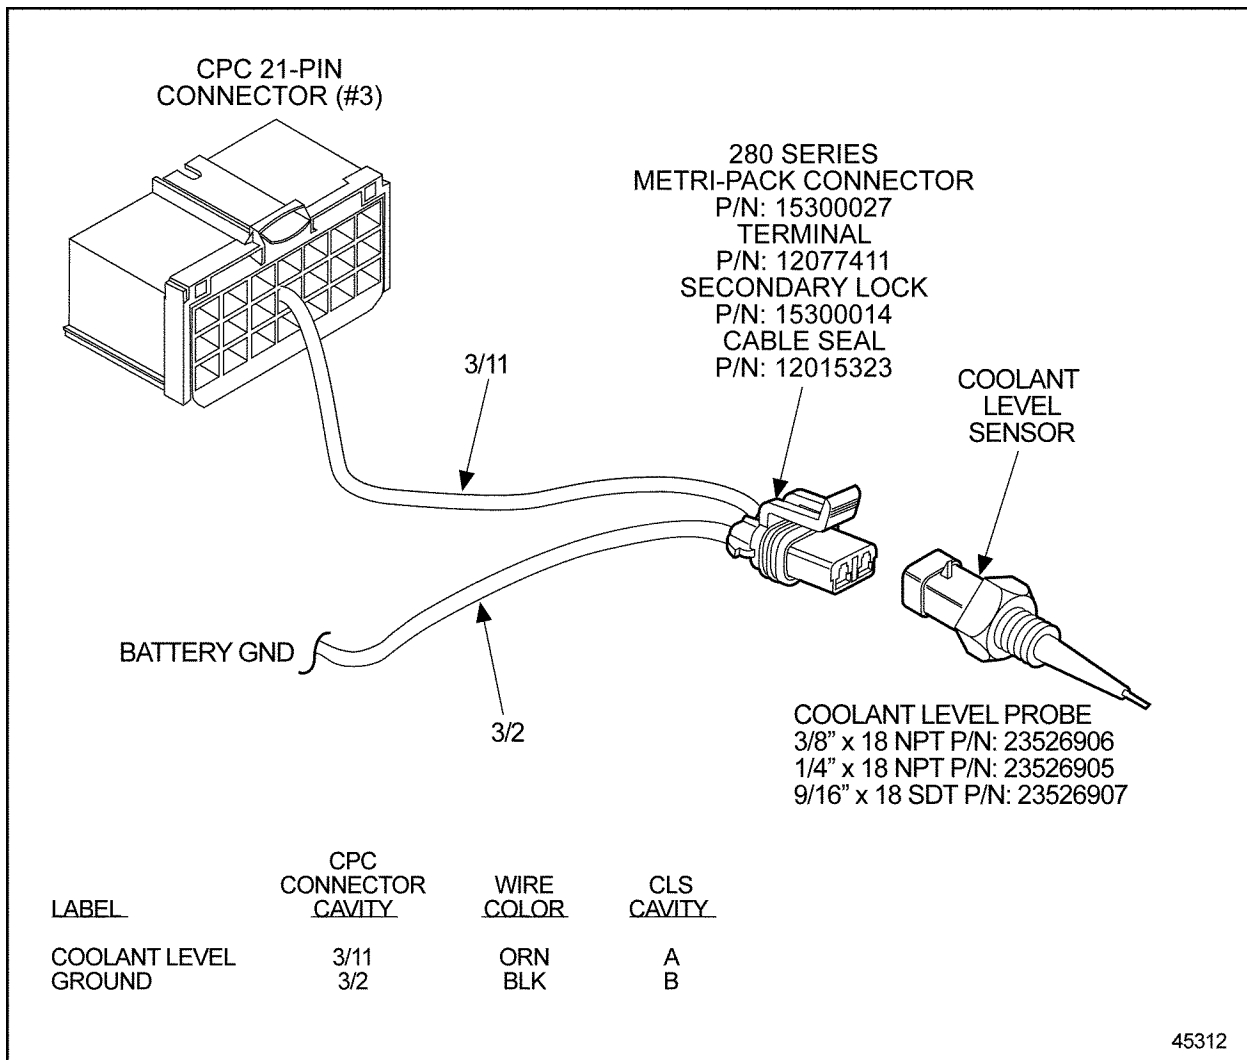

Figure 10-3 Engine Coolant Level Sensor Installation for CPC
- [a] If the resistance is greater than 1,000 Ω , replace ECL sensor. See Figure 10-3. Refer to section 10.2.1.1.